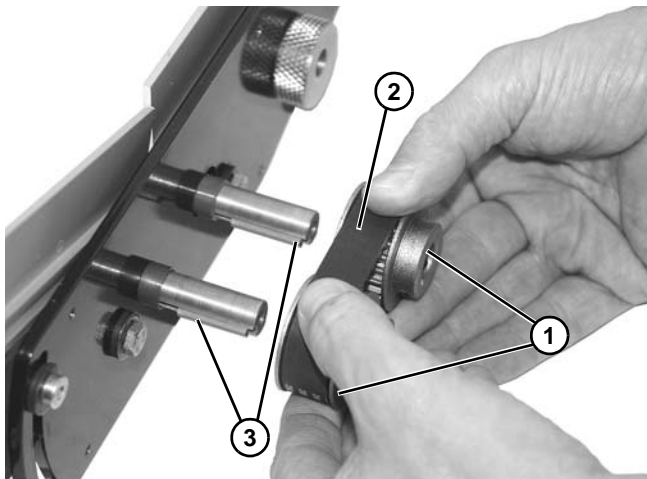

Figure 79
4. Remove both pulleys (**Figure 79, item 1**) and belt (**Figure 79, item 2**).
5. Be certain two keys (**Figure 79, item 3**) are installed onto each shaft.
6. Install new belt (**Figure 79, item 2**) and both pulleys (**Figure 79, item 1**).